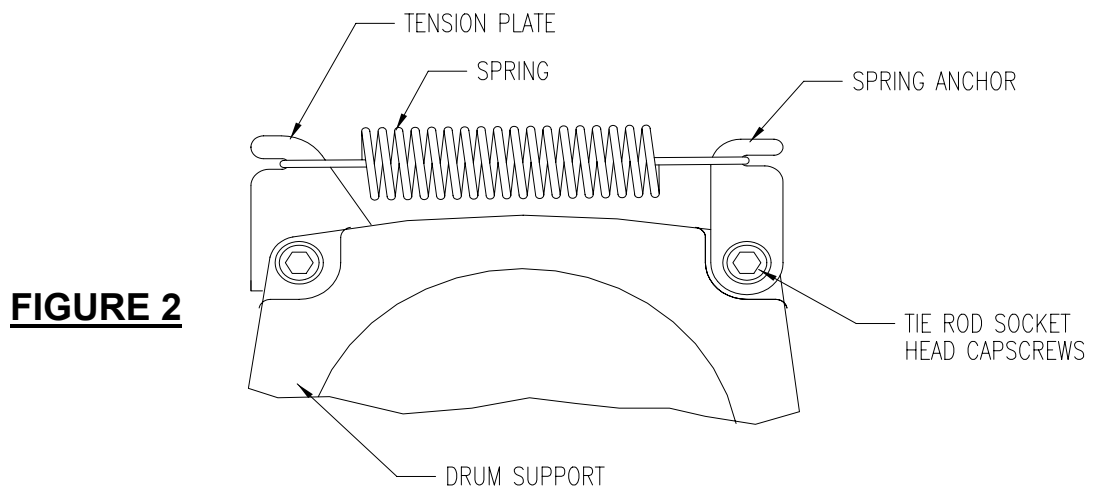

FIGURE 2
3. Remove the two capscrews on the other tie rod. Leave tie rod in place, position spring anchors between capscrews and drum supports as shown in **FIGURE 2**. Torque capscrews to 50-60 Lb.-in. (5.6-6.8 N•m).